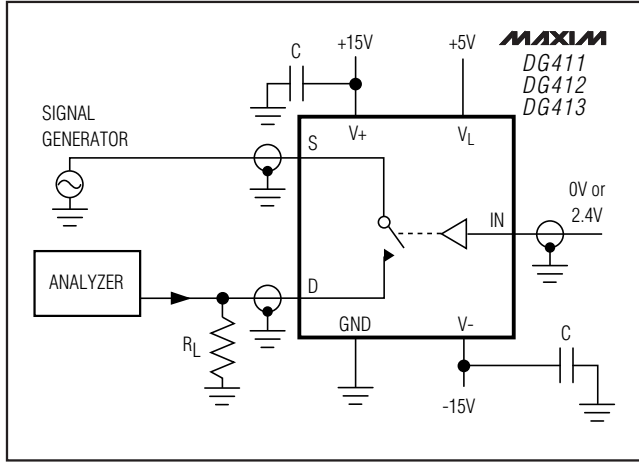

Figure 5. Off-Isolation
**Note 5:** Off-Isolation = 20 log (VD/VS), VD = output, VS = input to off switch. See Figure 5.